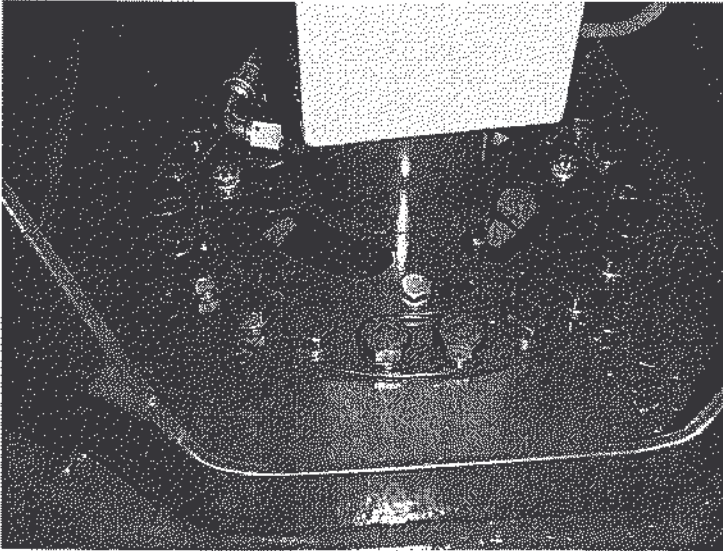

Figure 32.-1 Inner shell bolts
32.2 Outer shell bolts: figure 32.-2